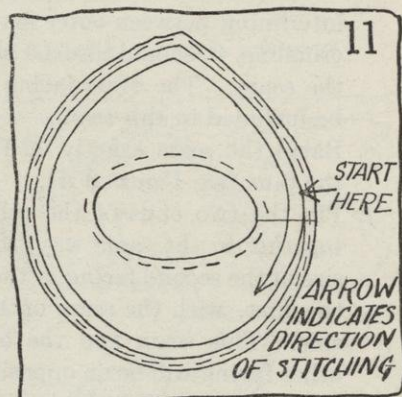

FIG. 11.
- With the top facing, facing you, start the stitching at the outer edge a little to one side of the direct back of the brim (see Figure 11). Put the first row of stitching very close to the edge so that it will hold the seam down flat. Be sure to keep the brim to the left of the presser foot of the machine.
- When you reach the place where you started to stitch, continue to stitch exactly along the first $\frac{1}{2}$ inch of the first row of stitching, and stitch away from that row very gradually (see Figure 11) until you reach the second row, which should be $\frac{1}{8}$ inch (or more if desired) from the first row (see Figure 11). If you do this carefully, you will scarcely be able to tell where the stitching started. Do not break off the thread. Half of the presser foot of the machine is a good guide for the distance that rows of the stitching should be apart. **Material must not pucker between rows of stitching.**